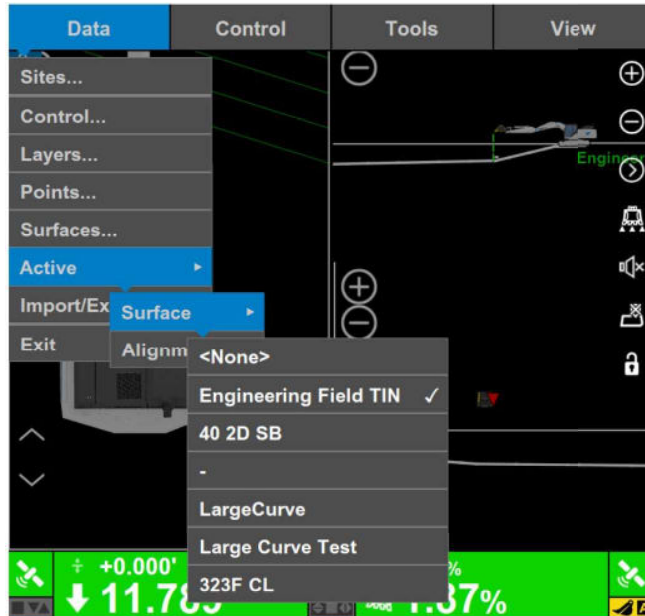

Figure 2-51: Select an Active Surface File
1. Press the **Power** button on the display, then select **Data > Active > Surface**. Select the surface file you want to be active on the main screen (Figure 2-51).